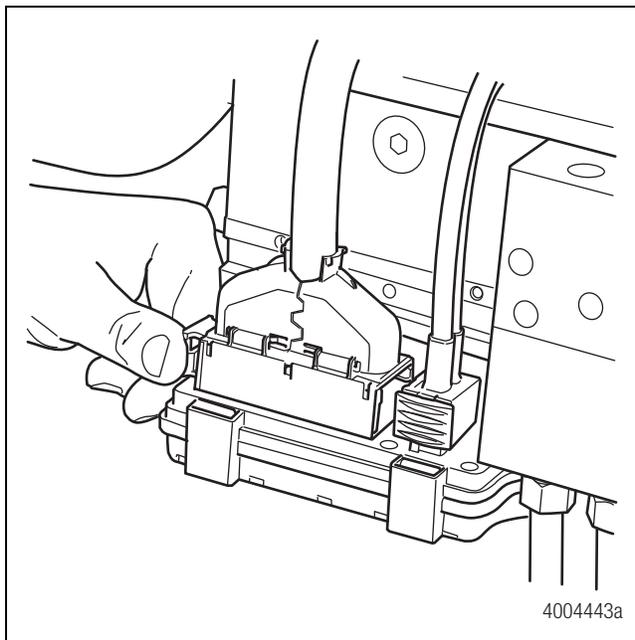

Figure 4.24
- Attach the 31-pin harness and then the two-pin power connector to the ECU. Push the latch into position to lock the connection. Figure 4.24.